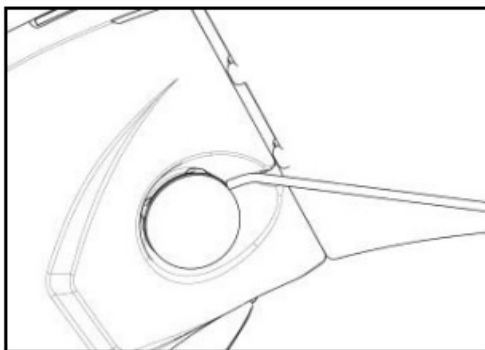

Fig. 18
- Hook up the specific microphone for full-face helmets in its seat in the chin guard (Fig. 18).